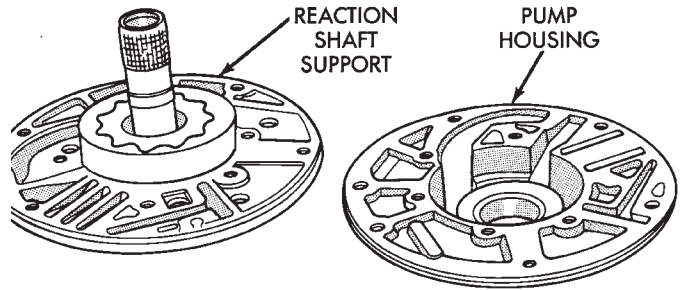

Fig. 123 Separating Pump Housing From Reaction Shaft Support
- (4) Separate support from pump housing (Fig. 123).